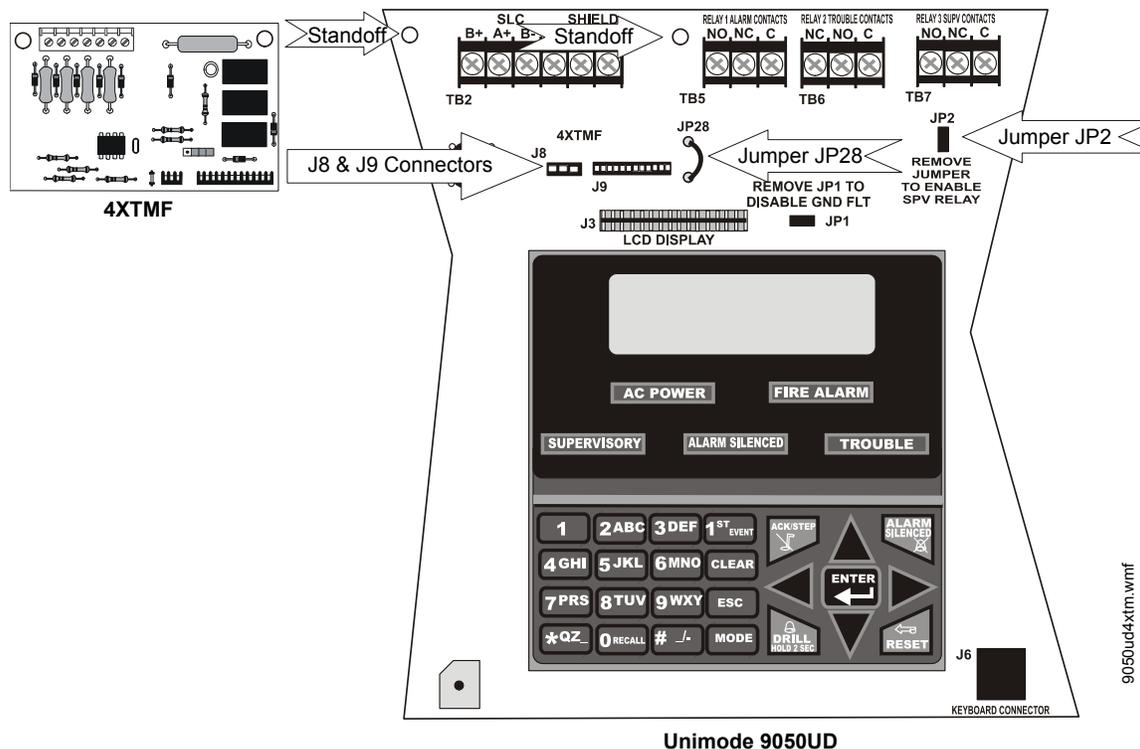

Figure 2.11 4XTMF Connectors to Unimode 9050UD Connectors
3. Remove two screws securing main circuit board to mounting plate and install two standoffs for securing 4XTMF module to main circuit board. Refer to Figure 2.11 for standoff locations on main circuit board.